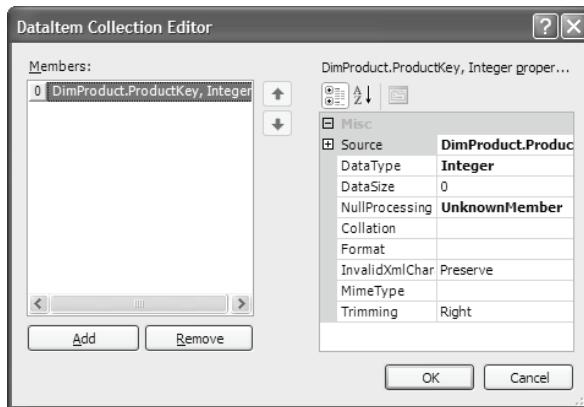

Figure 5.43 Set the NullProcessing setting of the dimension key to assign the offending member to the Unknown member.
4. Change the NullProcessing option to *UnknownMember* (Figure 5.43). As a result, when a matching dimension key is not found during dimension processing, a ConvertToUnknown error will be triggered. As Table 5.1 shows, the default error configuration will ignore this error.
5. Click OK to close the Measure Group Binding dialog. A little blue icon appears with an informational message "The default attribute bindings have been modified". If you want to fix this issue, open the DimCurrency dimension in the Dimension Designer and change the NullProcessing setting of the Currency dimension key to *Error* (see Figure 5.43).